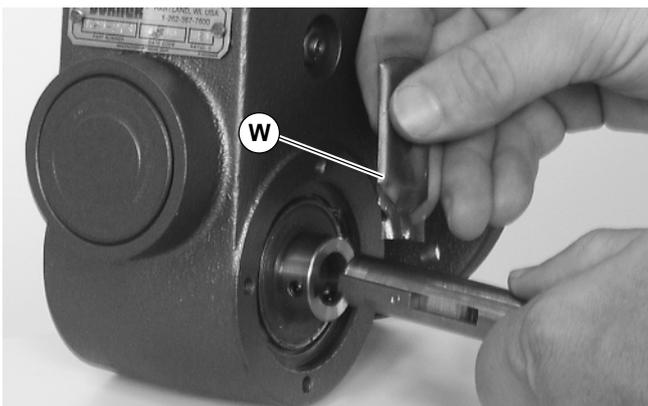

Figure 13
7. Remove two (2) screws (Q) and detach output shaft cover (R).
8. Remove gear reducer output shaft key (S).
9. Apply Loctite[®] 680 Adhesive (W of Figure 13) to new shaft.